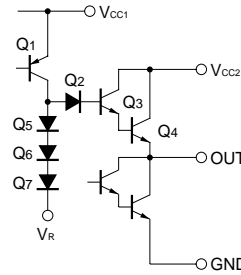

Fig.8
(4) V_{CC1} , V_{CC2} , and V_R are related to each other as shown in the output circuit diagram of Fig.8. Their values should be kept within the following ranges.